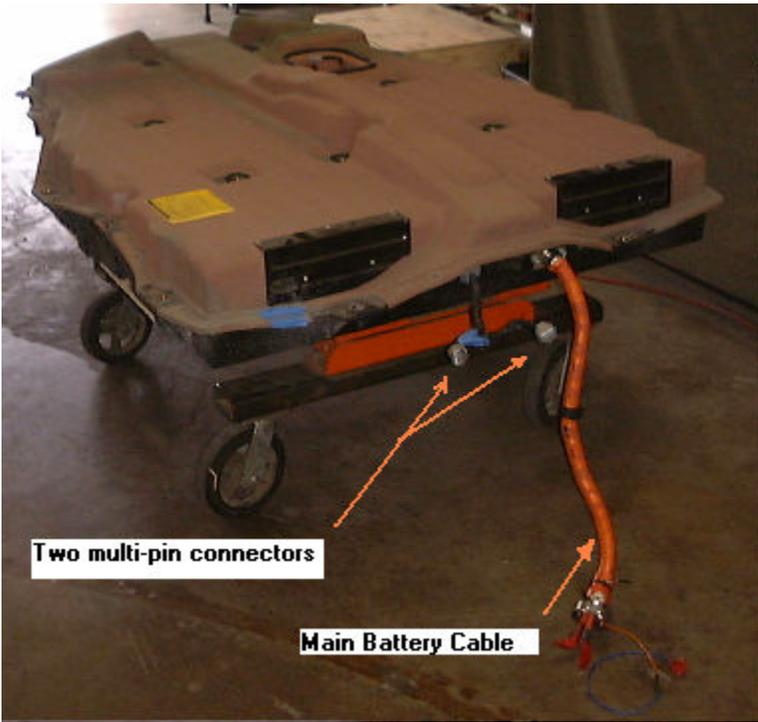

Figure 1
- From under front of vehicle, disconnect the pack's two multi-pin connectors, see figure 1, this will also prevent the main contactor from engaging during the next step.